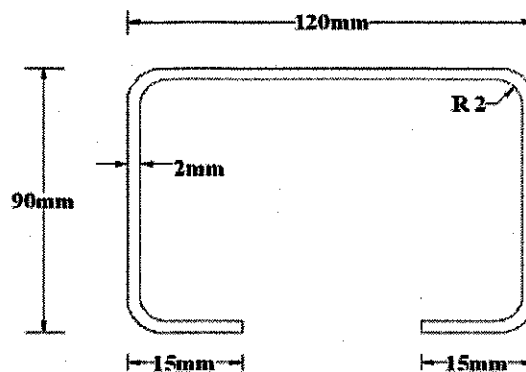

Fig 2.
7. a. Write a note on form factor considered in Light Gauge Compression members. (3)
b. Determine the allowable load per m run on a beam with the section as shown in Fig 2.